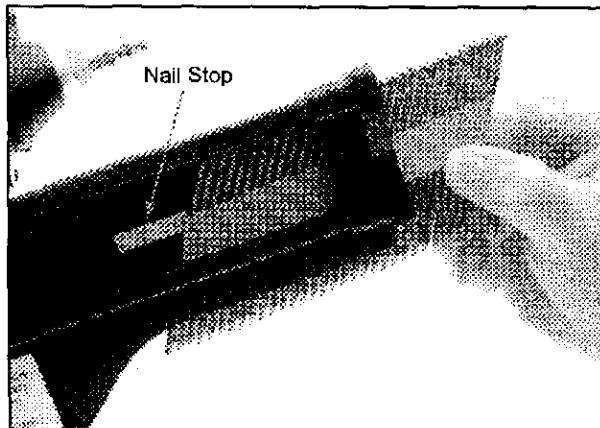

Figure 2 - Insert Nail Strip
Refer to Figures 2, 3 & 4, page 4.
- Insert one or two nail strips into the slot located on the end of the magazine. Feed strip(s) past nail stop (see Figure 2)